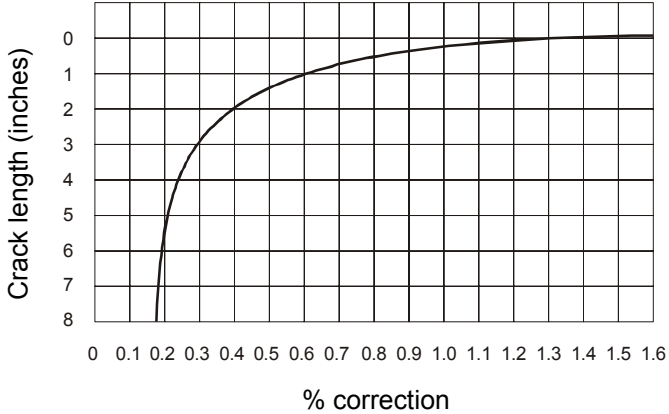

**Figure 2. Crack length versus % elongation - Cold rolled steel, 0.8 mm (1/32") thick, 25 µm (1 mil) coating**
If required, use the curve shown in Figure 2a to determine the elongation of the coating.
a. The curves shown in Figure 2 and Figure 3 are reproduced from ASTM D 522
If necessary, adjust for coating thickness; add the correction value obtained from the curve in Figure 3 to the percentage elongation obtained from the curve in Figure 2.